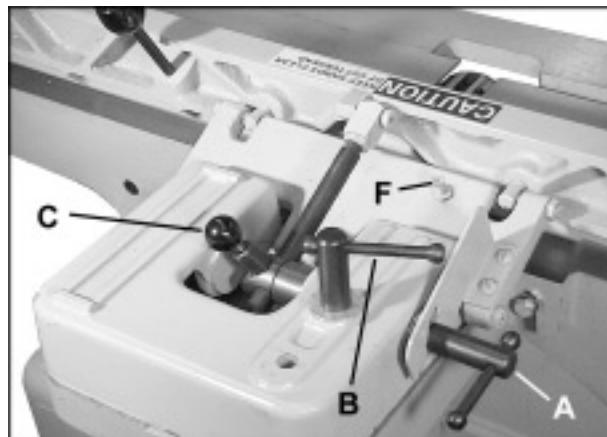
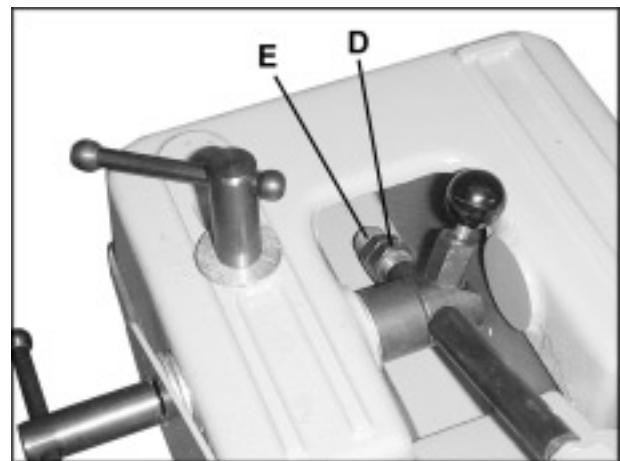

FIGURE 13
FIGURE 14
1. To tilt the fence forward in the cradle-cut position, loosen the fence lock screw (B). Pull up on the fence lock plunger (C) and tilt the fence forward.
3. The two jam nuts (D & E) on the end of the tilt rod are factory pre-set to stop the forward tilt at 45 degrees. See Figure 14. The front nut (D) is used for adjusting and the rear nut (E) to lock the setting. When all adjustments have been made retighten the fence lock screw (B), Figure 13.
4. To tilt the fence backward, loosen the fence lock screw (B). Raise or lower the tilt stop screw (F). When the desired degree of cut is reached, retighten the fence lock screw (B).